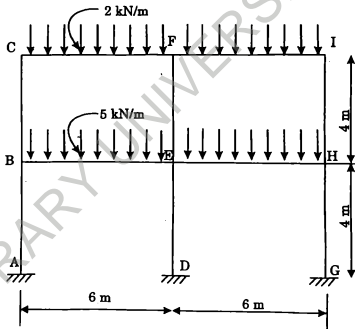

Figure 5
14. (a) Analyse the building frame shown in Figure 5 for vertical loads using approximate methods.